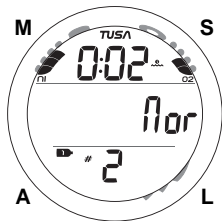

Fig. 30 - NORM SURF MAIN
**NORM SURF MAIN**, information provided includes (Fig. 30):